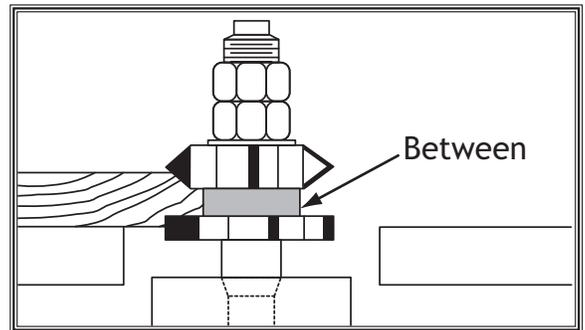

Figure 25. Rub collar mounted between two cutters.
- **BETWEEN TWO CUTTERS** as shown in **Figure 25**. This setup has the advantage of making two profile cuts in a single pass.